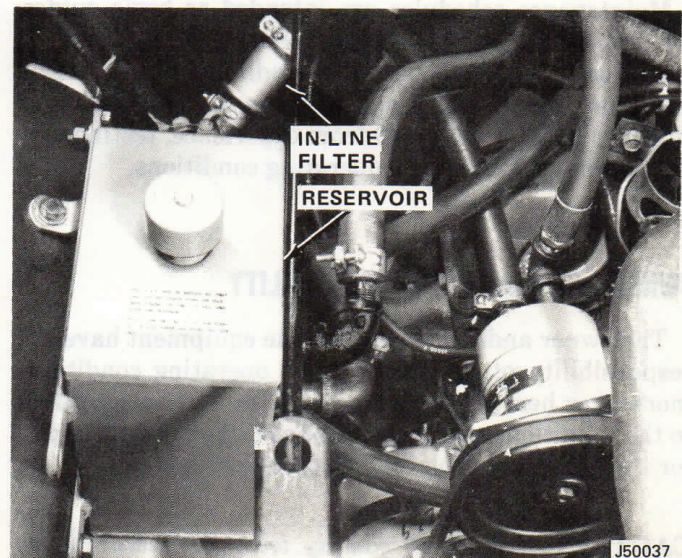
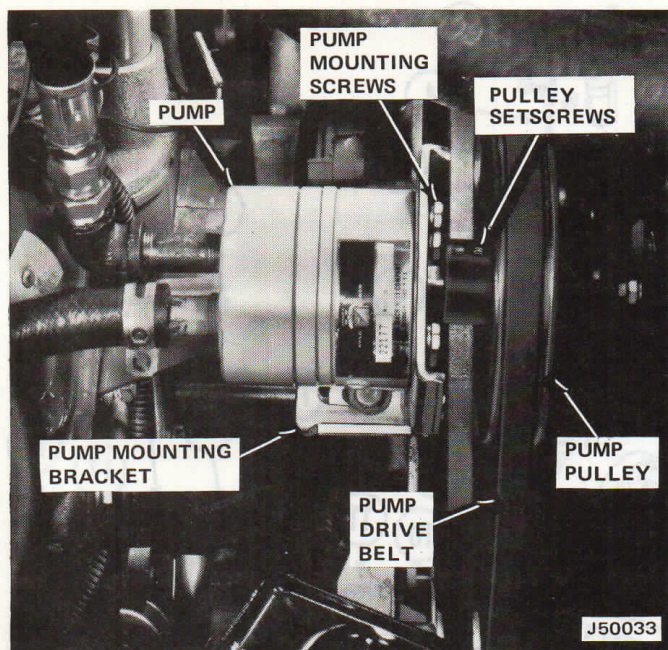

Fig. B-2 Hylo Reservoir
Fig. B-3 Hylo Pump
(1) Check fluid level before each use of plow.
(2) After initial five hours of use, remove and clean in-line filter thoroughly (fig. B-2). Replace if necessary.
(3) Drain and clean oil reservoir at least twice during plowing season. Fill to within 1/2 inch of top with cylinder retracted. Use API Service Classification "SE" 10W-30 engine oil only. Any other type of oil or fluid may cause unit to malfunction. Run vehicle engine for three minutes to purge system of air.
(4) Ensure pump pulley set screws are tight. Check before each use of plow (fig. B-3).
(5) Before using plow, inspect drive belt (fig. B-3) for excessive wear. Use Tension Gauge J-23600 to check drive belt tension, 60-70 pounds (267-311 Newtons) is acceptable.